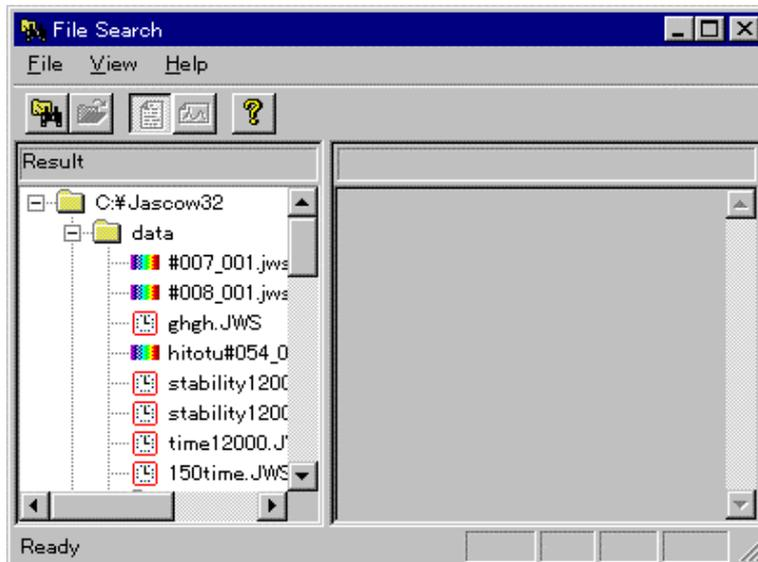

Fig. 3.3 [File Find] dialog box showing search results (when file is not selected)
- (3) Click the <OK> button to begin searching. The search results are displayed in the filename display area (Fig. 3.3).
- <OK> Click to conduct the search according to the specified parameters(file type, directory, and drive). The results are displayed in the filename display area (see Fig. 3.3).